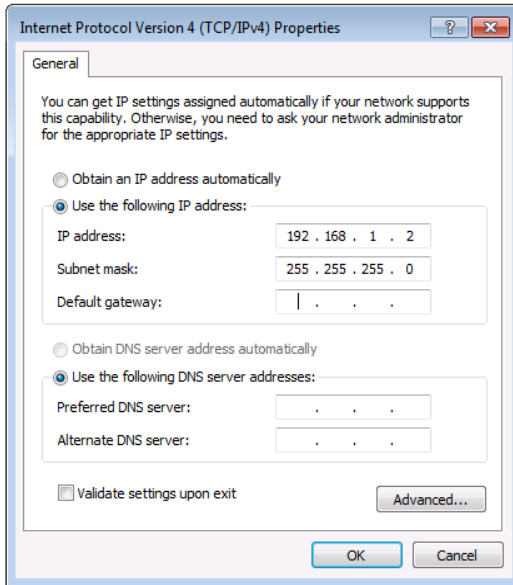

Figure 12: Internet Protocol Properties Window
6. Select **Use the following IP Address** for static IP addressing and enter the details as shown in Figure 12.